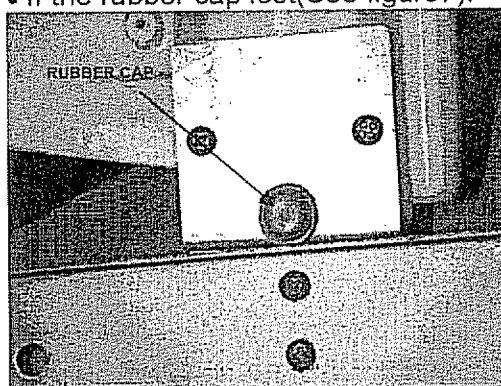

Figure 7
- If the rubber cap lost(See figure7).